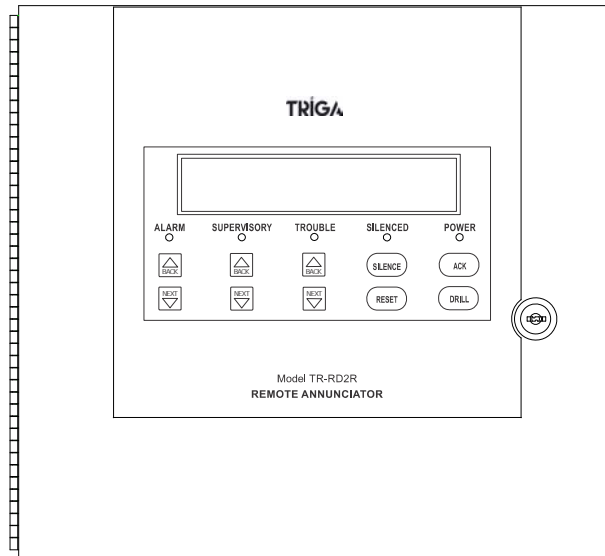

**Figure 4.18 TR-RD1G/R Connection to the Panel**
3. Connect the TR-RD1G/R to the panel (see Figure 4.18).
4. After the annunciator wiring to the panel has been completed (refer to Figure 4.18), replace the electronic assembly in the back box. Place the bezel over the back box and tighten the set screws on the bezel.